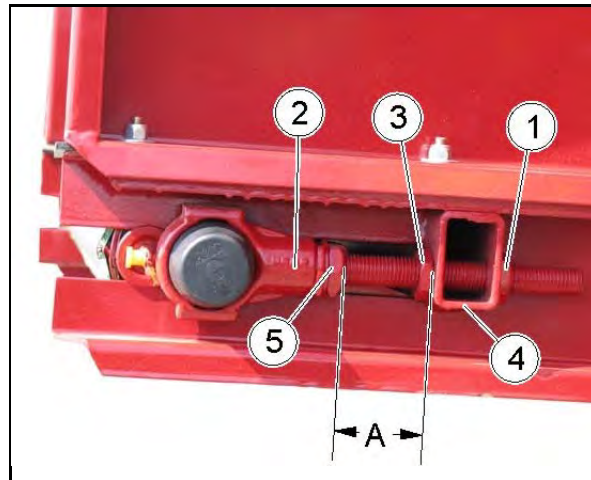

Fig. 47
- Straighten the conveyor by means of the clamping screws (Fig. 47/2) if the conveyor is not running straight or is rubbing along the frame.